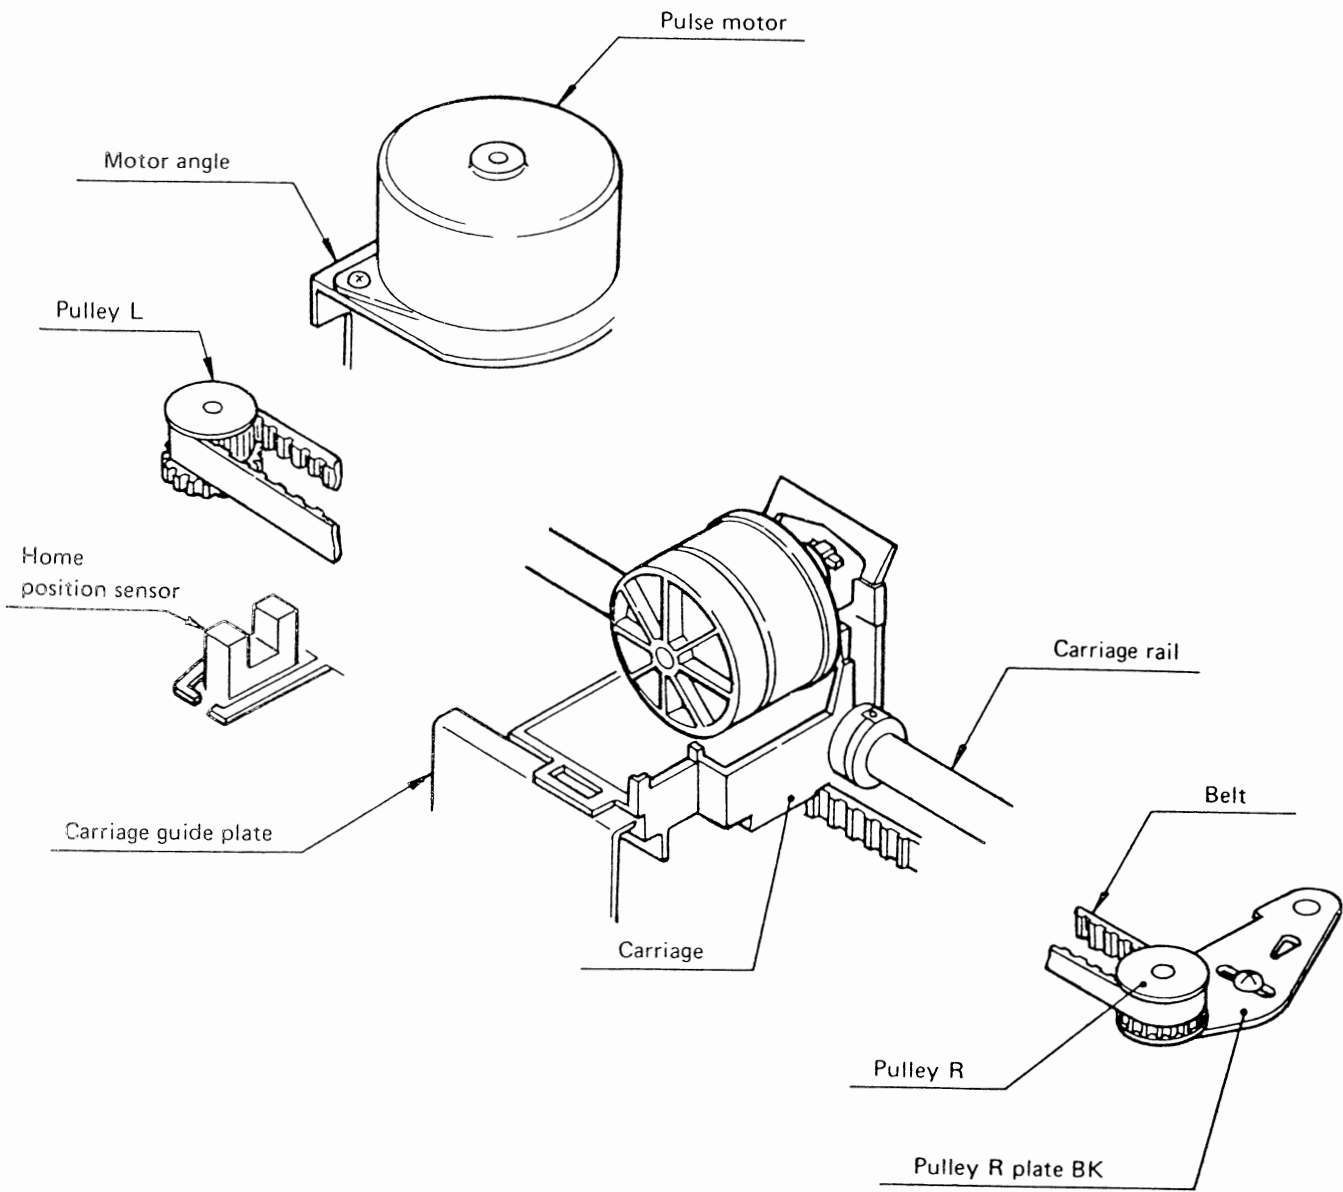

Fig. 2
(1) Mechanism and operation (see Fig. 2)
(2) Carriage return operation (see Fig. 2)